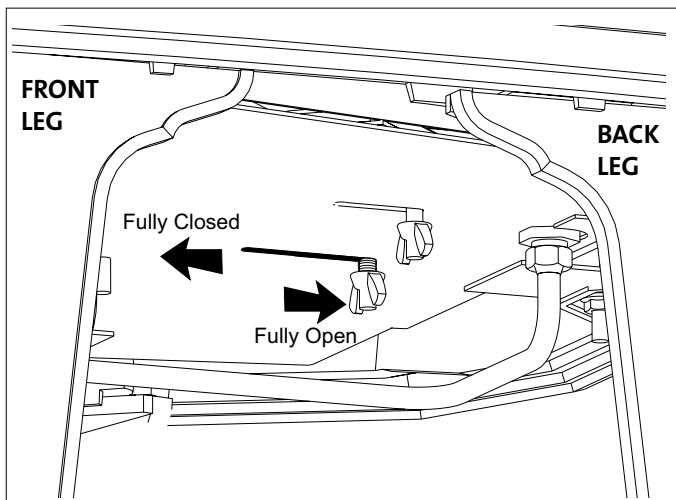

Figure 6. Adjusting the Air Inlet Restrictor plate - View is from the right side of the stove.
This plate is located at the rear of the firebox behind the burner plate. It is set in a CLOSED position at the factory and should be left there for most vent configurations. It should be opened only for snorkel terminations and some short run horizontal terminations as specified on the following pages. To adjust the Air Restrictor to the OPEN position, locate and loosen the wing nut under the burner and push it back as far as it will go. See Fig. 6.
- **THE AIR INLET RESTRICTOR MUST BE SET FULLY OPEN FOR ANY SNORKEL TERMINATION.** See Fig. 6, pg. 9.